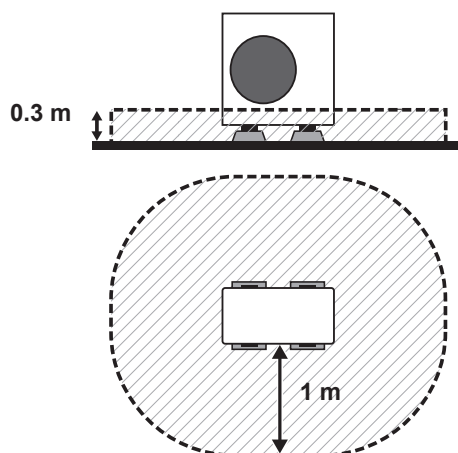

Fig. 2-3
(1) When installed in a location with an open around (Fig. 2-3)